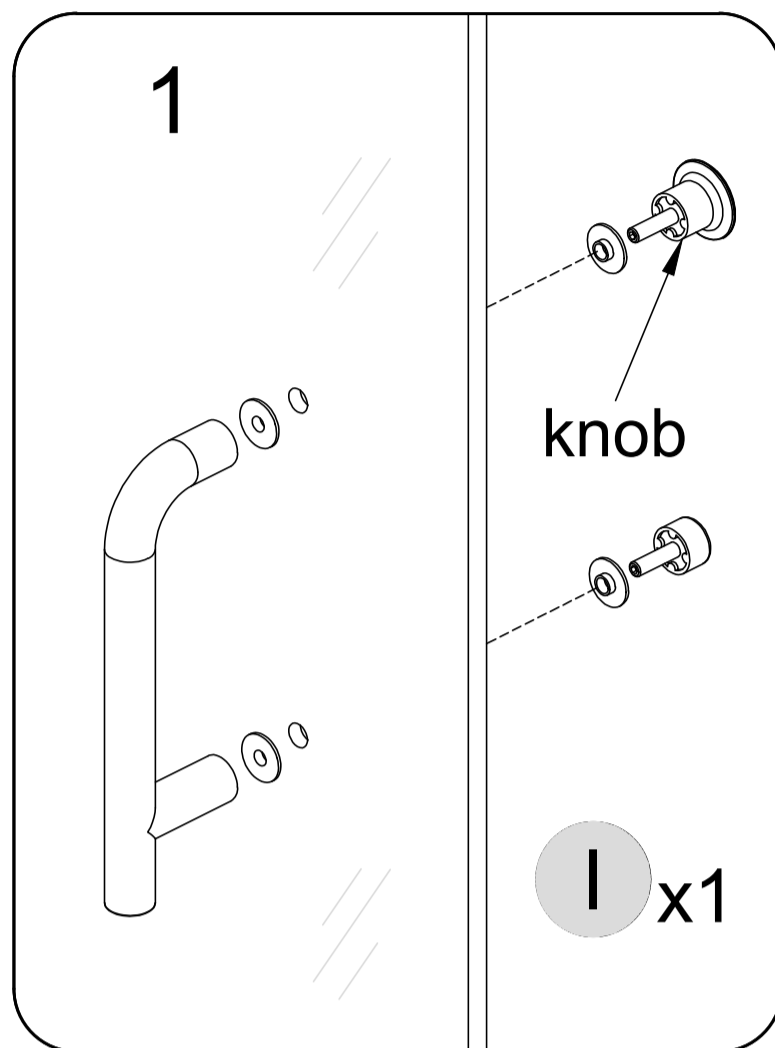

Fig 16
Attach the **Handle (I)** to the **Glass Door (H)** .(Fig 16) (Knob is placed upward)